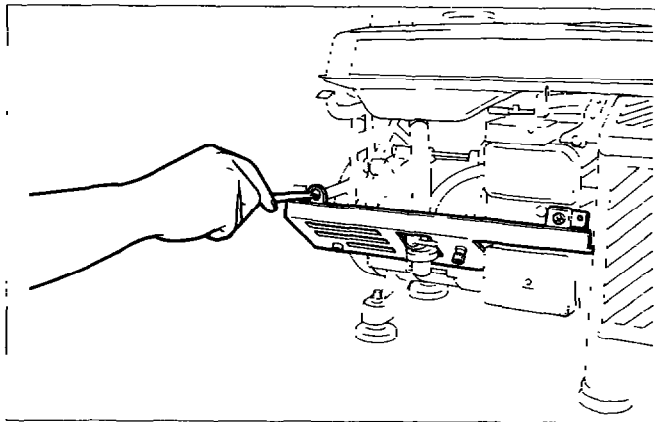

Fig. 10-37
- (1) Secure the front cover, on which fuel strainer have been mounted, with three M5 × 8 screws. (See Fig. 10-37.)